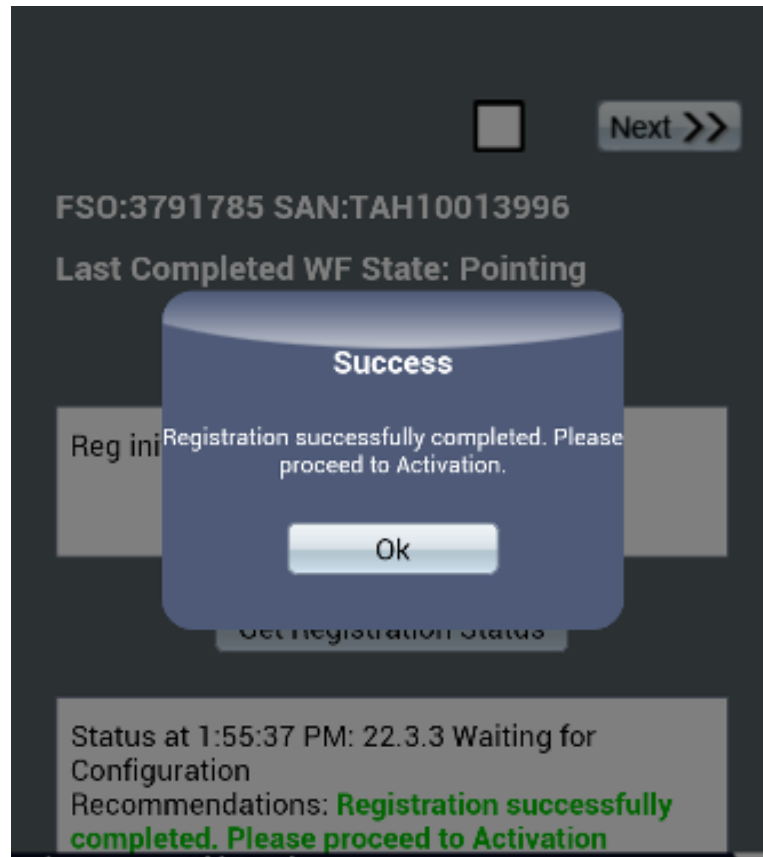

Figure 39: Registration successful
2. When the modem successfully registers, a success pop-up message appears (Figure 39). Tap **Ok**.